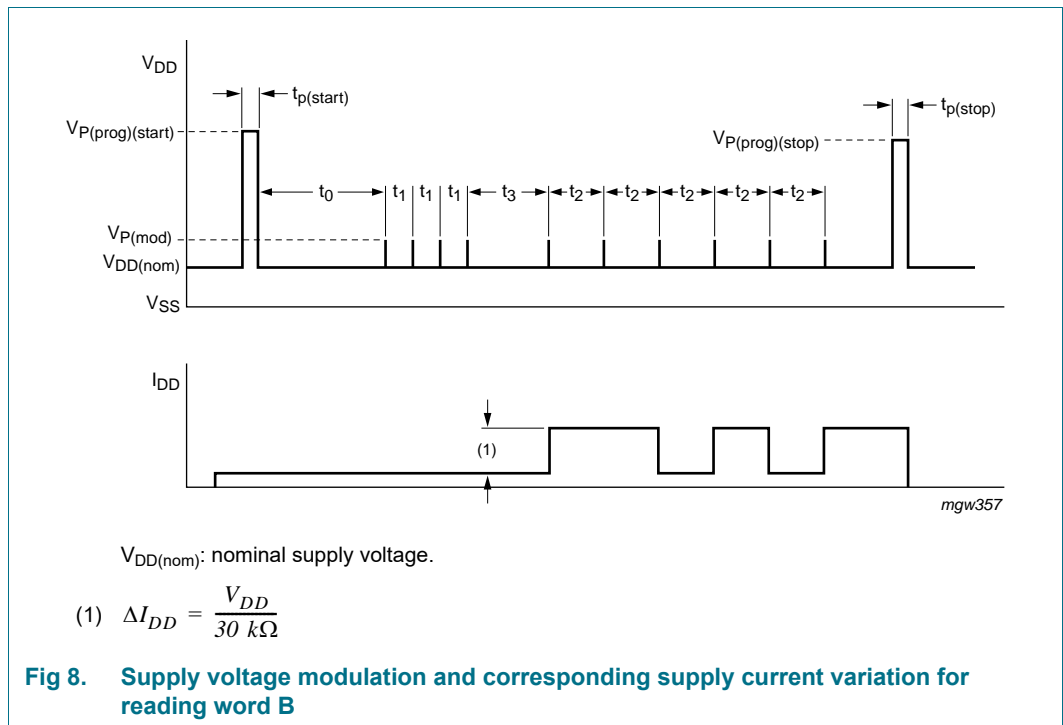
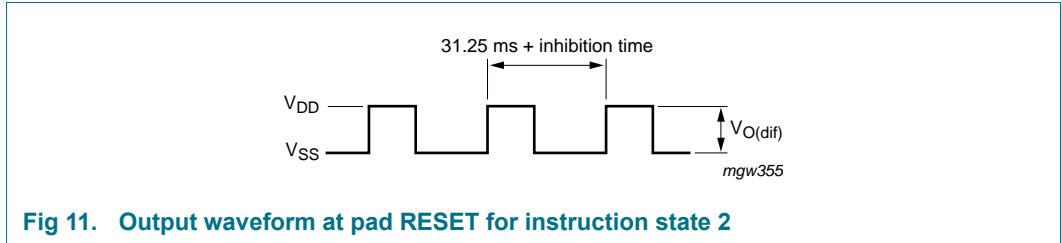
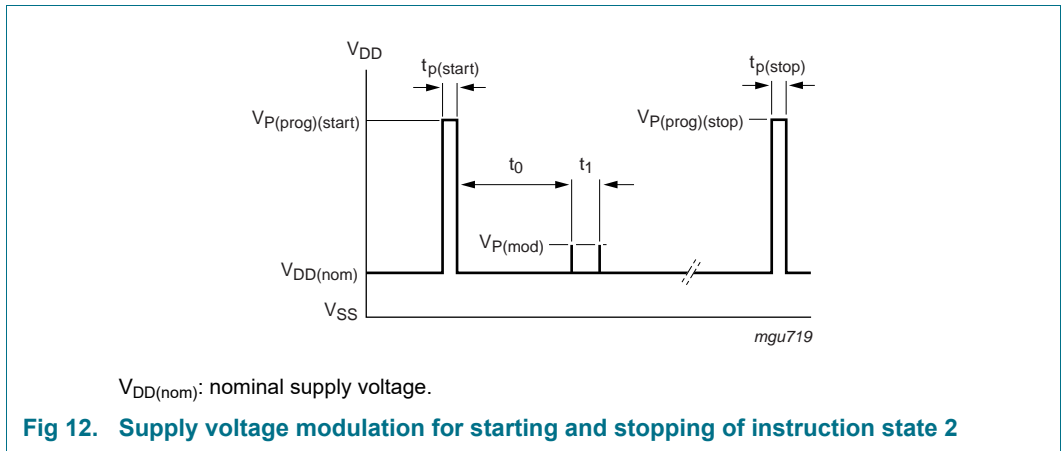

Fig 8. Supply voltage modulation and corresponding supply current variation for reading word B
Fig 11. Output waveform at pad RESET for instruction state 2
Fig 12. Supply voltage modulation for starting and stopping of instruction state 2
Each instruction state is switched on with a pulse to $V_{P(prog)(start)}$. After this large pulse, an initial waiting time of t_0 is required. The programming instructions are then entered by modulating the supply voltage with small pulses (amplitude $V_{P(mod)}$ and pulse width t_{mod}). The first small pulse defines the start time, the following pulses perform three different functions, depending on the time delay (t_d) from the preceding pulse (see Figure 7, Figure 8, Figure 11 and Figure 12):
Figure 8 shows the supply voltage modulation for reading word B, with the corresponding supply current variation for word B = 110101 (sequence: first MSB and last LSB).
- State 2: inhibition time has a value of $n \times 0.122$ ms. A signal with periodicity of 31.25 ms + $n \times 0.122$ ms appears at pad RESET and as current modulation at pad V_{DD} (see Figure 11 and Figure 12)
See Figure 7, Figure 8 and Figure 12.